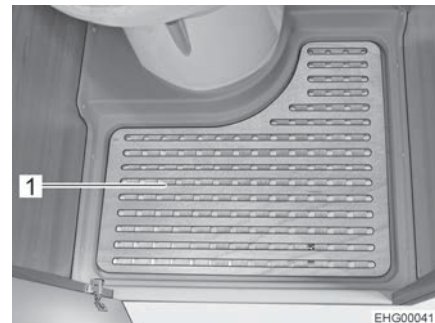

Fig. 100 Removable floor plate
- Take out the removable floor plate (Fig. 100,1) for showering.